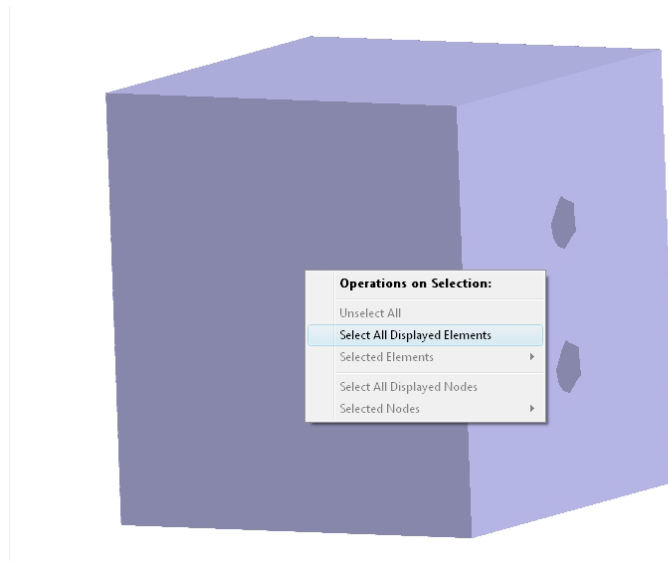

Figure 9.33: Select all displayed elements in the GUI.
- Right-click on the mesh while holding down the *shift-key* to view a pop-up context menu shown in Figure 9.33 and select: **Select All Displayed Elements**.
- Left-click on the elements around the edge of a hole while holding the *shift-key*. Make sure to select elements with nodes on the hole edge (similar to the Figure 9.33).